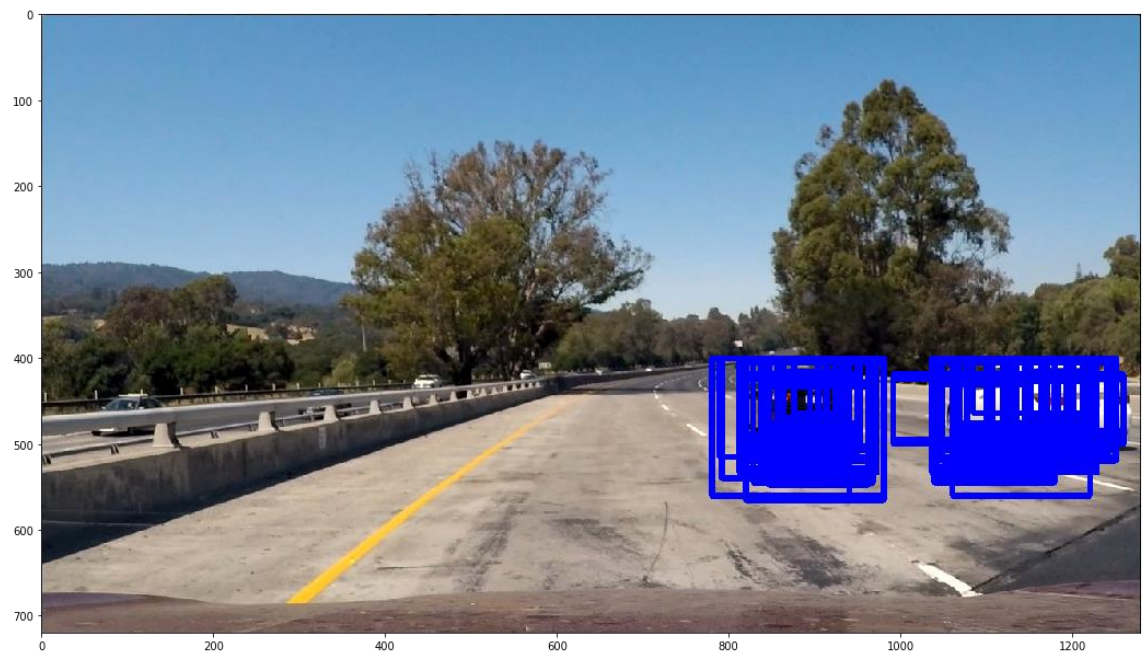

Figure 4: With Window Subsampling Test1
- A. Obtain sub-sampled window search as discussed above (output looks like the one in Figure 4)